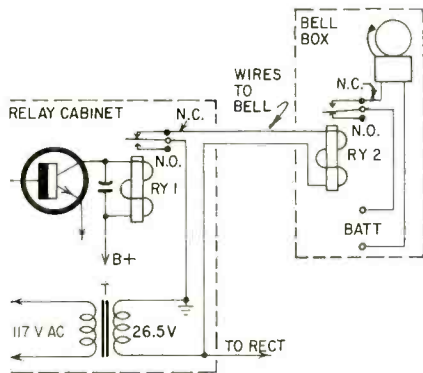

Fig. 2—Cutting the wires, breaking the light beam or a power failure will set off the alarm.
For burglar-alarm duty, you may try the circuit of Fig. 2. The sensitive relay RY1 is connected to a second (25-volt, ac) relay (RY2) with the transformer (T) furnishing power. The normally closed contacts on RY1 keep RY2 energized. If someone or something should break the light beam, RY1 will pull in, RY2 drops out and the bell will sound. A power failure will result in the same thing.